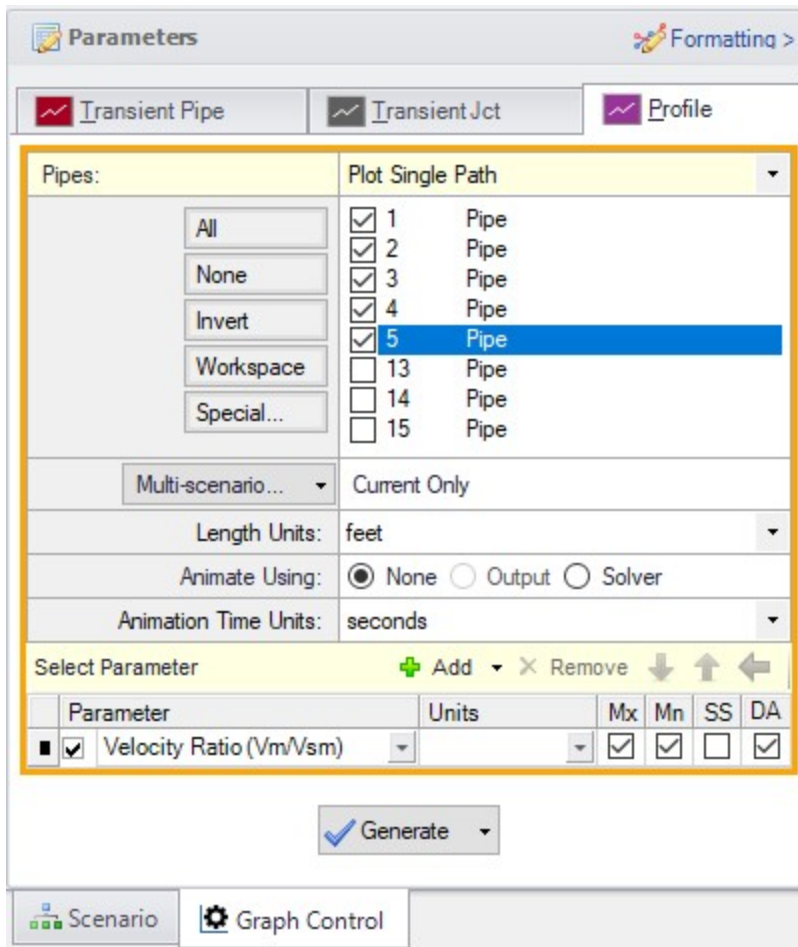

Figure 8: Data selection to view the velocity ratio along the flow path to Deposit #1
2. On the Profile tab in the Quick Access Panel, select pipes P1 through P5 (Figure 8). These represent the flow path to Deposit #1.